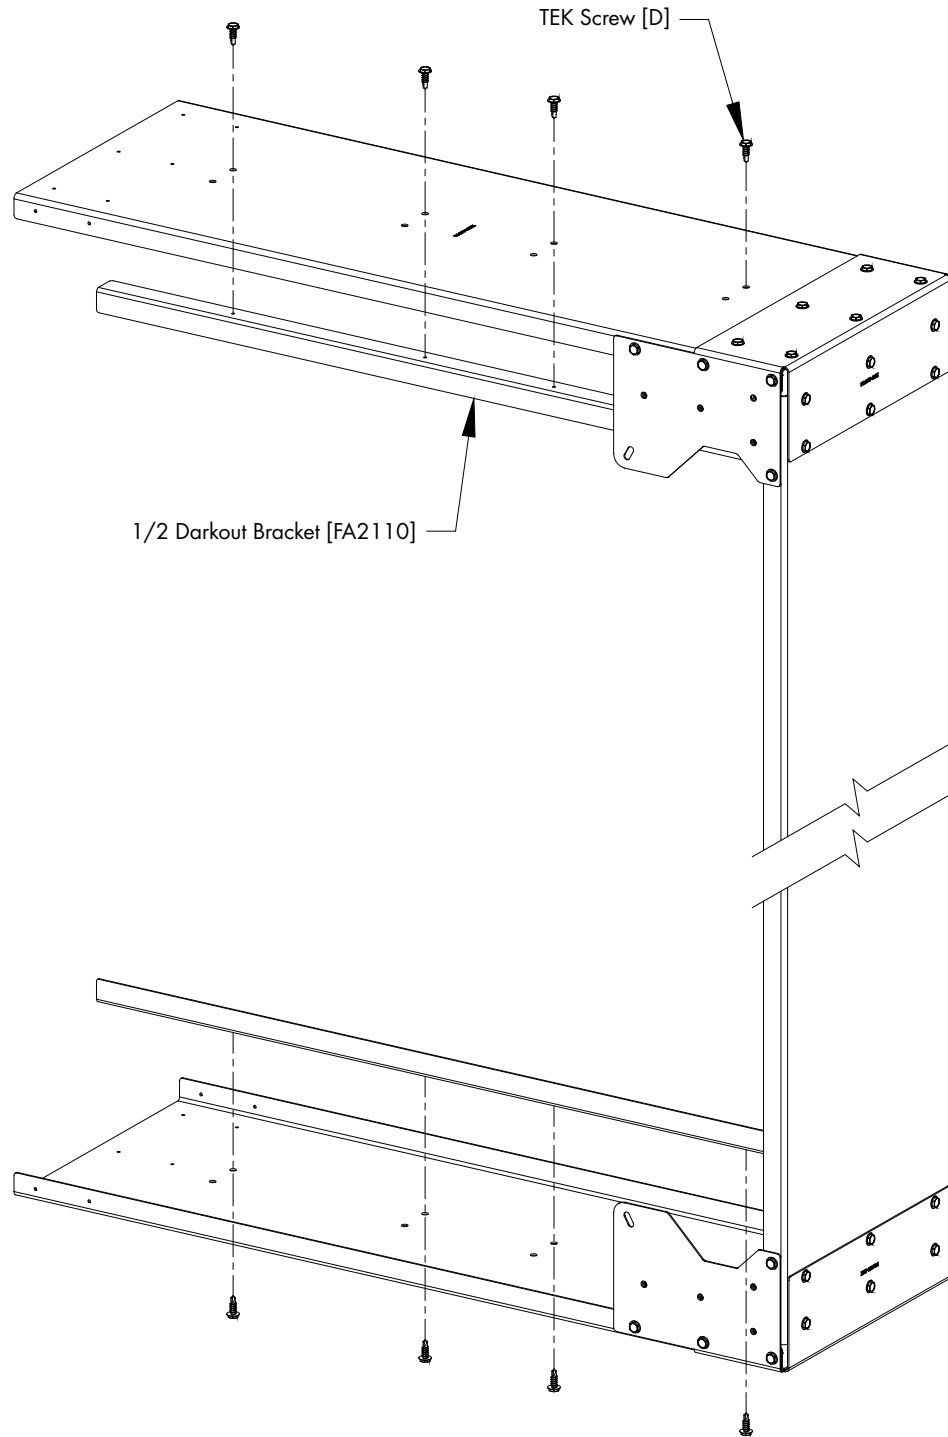

Figure 16
If you will be installing Full Depth Light Trap into the door then proceed to Step 17. If installing Half Depth Light Trap, proceed with this step. Attach a 36" L. 1/2 Darkout Bracket [FA21 10] to the Top and Bottom Door Panels using (4) TEK Screws [D] per bracket. See Figure 16. The flat edge of the baracket should be facing the inlet side of the door.